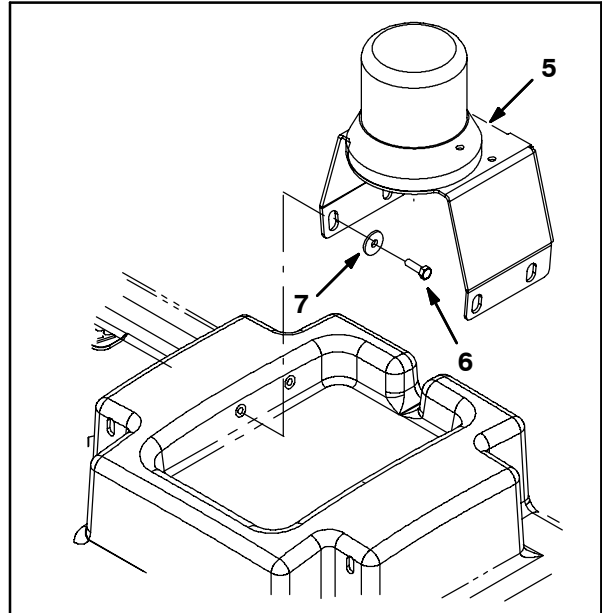

FIG. 5
- Use three hex screws (6) and three flat washers (7) to install the light support bracket (5) onto the solution tank. Refer to Fig. 5.